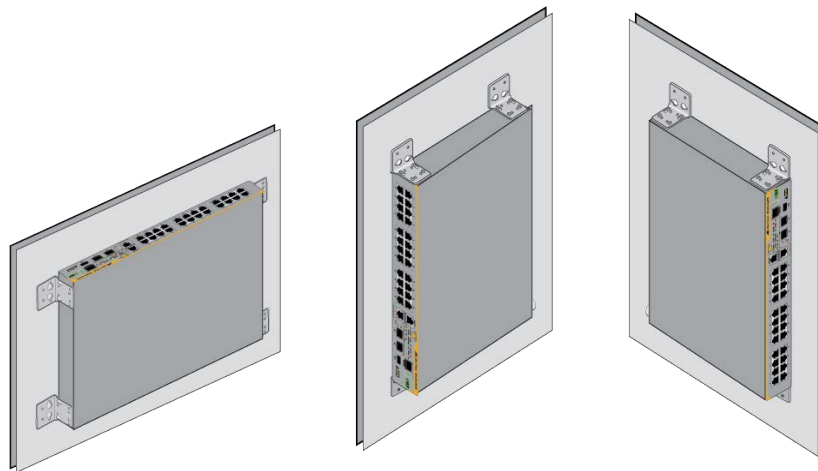
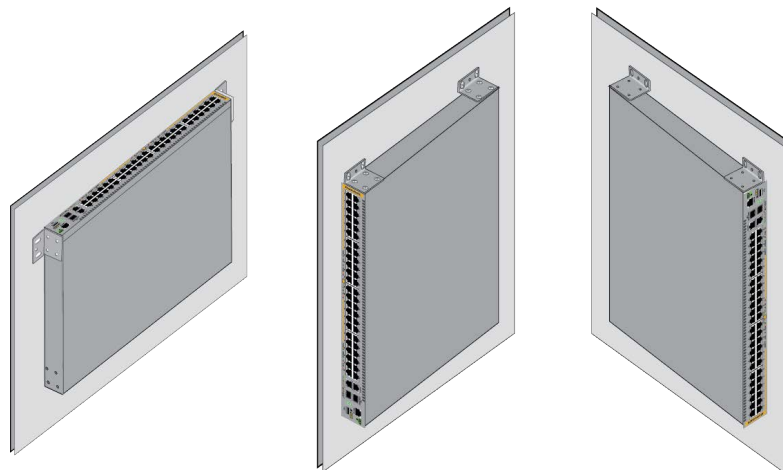

Figure 55. x330-20GTX and x330-28GTX Switches on a Wall with the AT-BRKT-J24 Brackets Kit
Figure 56. x330-52GTX Switch on a Wall
- ❑ You can install the switches on walls with the front panels facing up, left or right. Refer to Figure 55 and Figure 56.